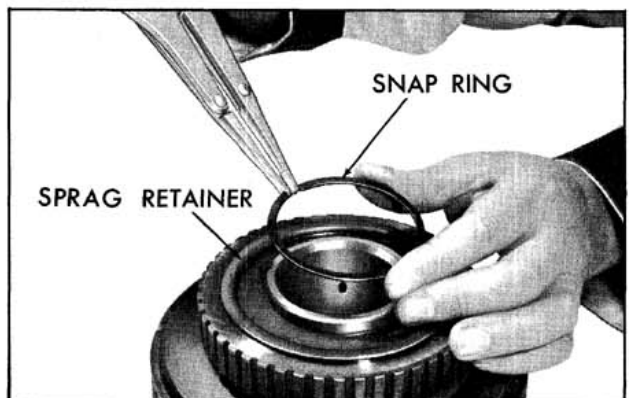

Fig. 6-149 Removing Snap Ring
1. Remove sprag retainer snap ring and retainer. (Fig. 6-149)